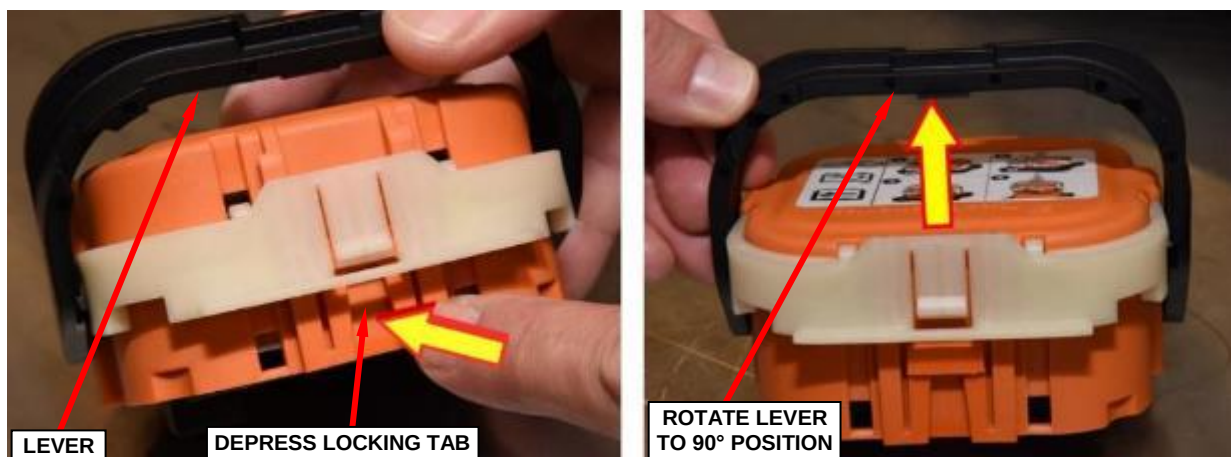

Figure 11 – High-Voltage Manual Service Disconnect Second Stage Latch Release
18. Depress the locking tab and continue to rotate the lever to the end of travel, 90° position (Figure 11).